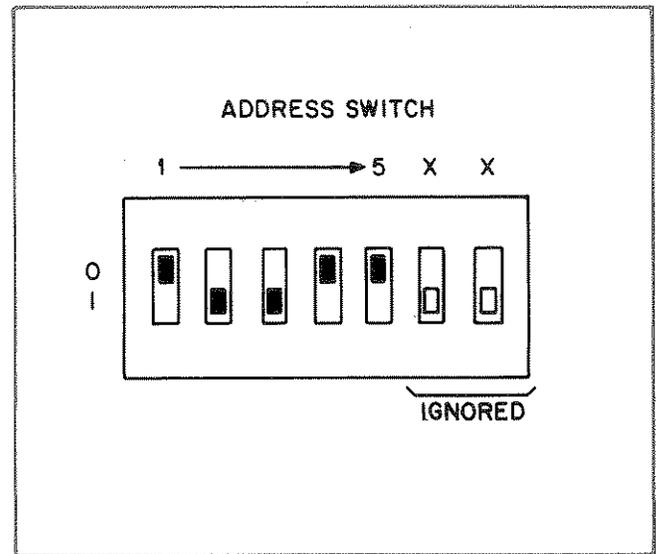

Figure 1.
2. Verify that the address switches on the back panel of the 59501A are set to 06. (See Figure 1).